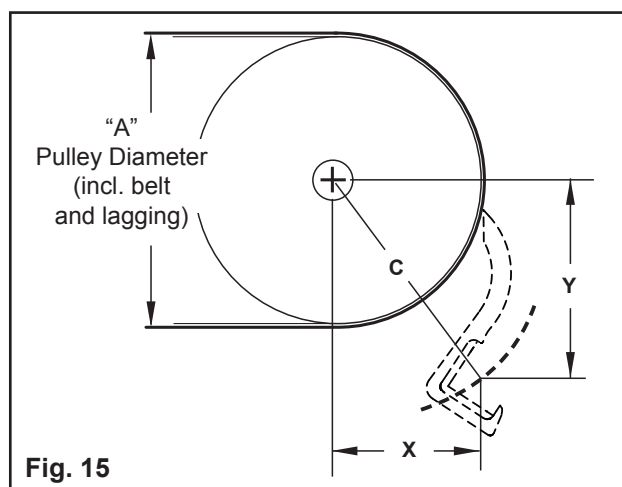

Fig. 15
1. Measure pulley diameter (A), including lagging and belt (Fig. 15).
2. Locate the overall pulley diameter that most closely matches yours on chart A, and use the corresponding X, Y, & C dimensions to locate the position of the center of the cleaner blade support bar (Fig. 15).